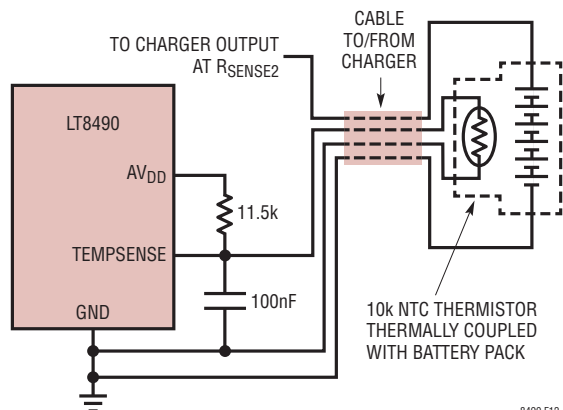

Figure 12. Battery Temperature Sensing Circuit
The LT8490 can measure the battery temperature using an NTC (negative temperature coefficient) thermistor thermally coupled to the battery pack. The temperature monitoring function is enabled by connecting a 10kΩ,  $\beta = 3380$  NTC thermistor from the TEMPSENSE pin to ground and an 11.5kΩ resistor from  $AV_{DD}$  to TEMPSENSE (as shown in Figure 12). If battery temperature monitoring is not required, then use a 10kΩ resistor in place of the thermistor. This will indicate to the LT8490 that the battery is always at 25°C.
3. BATTERY DISCONNECT SENSING: The LT8490 detects if the battery and thermistor have been disconnected from the charger by monitoring the TEMPSENSE pin voltage. When the connection to the battery is severed, as shown by the arrow in Figure 12, the connection to the thermistor is also severed and the TEMPSENSE voltage rises up to AVDD through the 11.5kΩ resistor. During the time when the battery is not present, the LT8490 halts charging. The charger automatically restarts the charging at Stage 0 when a battery (along with integrated thermistor or resistor) is sensed through the TEMPSENSE pin.